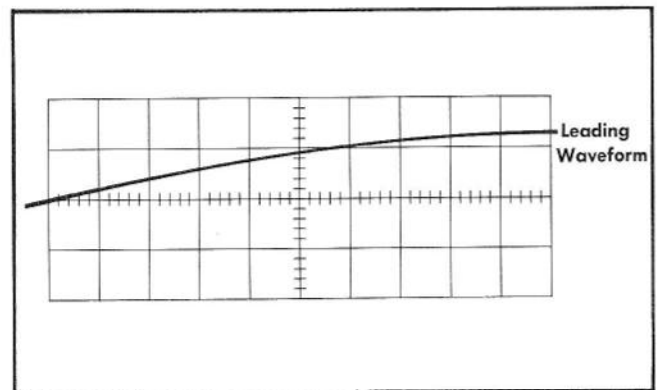

Fig. 3-5. Establishing the reference point with the leading waveform.
3. Carefully center the displayed waveform about the horizontal centerline using the VERTICAL POSITION Control. Switch on the magnifier and adjust the horizontal position of the trace so that the displayed curve crosses the horizontal centerline at the extreme left marking of the graticule (see Figure 3-5). Make this adjustment with the HORIZONTAL POSITION Control. The VERNIER HORIZONTAL POSITION Control should be placed in the fully clockwise position.
5. If a multi-channel plug-in is used, display both waveforms simultaneously. The leading waveform can be connected to the A input and the lagging waveform to the B input. The MODE switch of the plug-in should be in the ALTERNATE position. Follow the procedure of step number 4 to compute the phase angle, but keep the reference waveform where it crosses the center horizontal line at the left edge of the graticule markings. (See Fig. 3-5).
Fig. 3-6. Computing the phase angle. The distance from the reference point established in Fig. 3-5 to the point where the curve crosses the centerline, multiplied by 8° per centimeter is the phase angle.